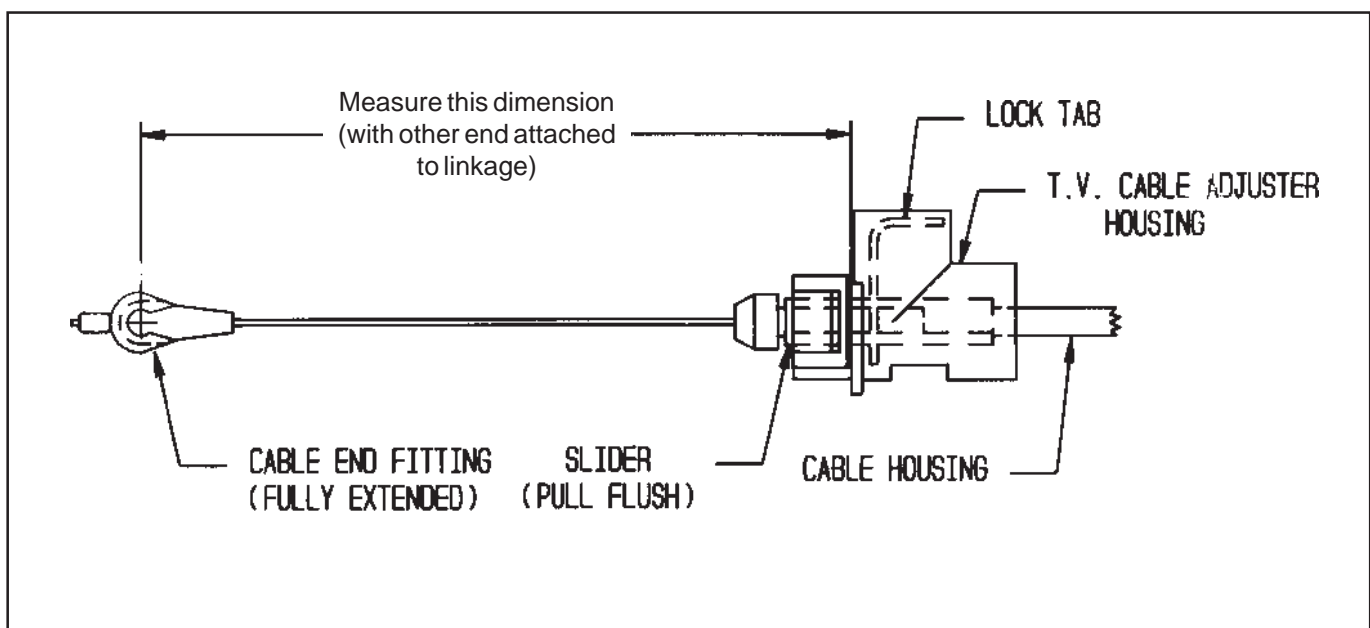

Figure 15
**STEP 1.** Measure your T.V. cable to establish its particular mounting dimension (there are several lengths in use.) as follows (See Fig. 15). Retract